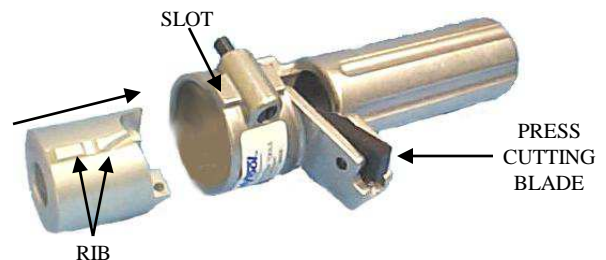

Fig. 2
Step 2 (Fig. 2) To insert the bushing into the WS5, line up rib on the bushing with the slot on the WS5 housing. Raise the cutting blade by depressing outer end and insert the bushing until it locks into place.